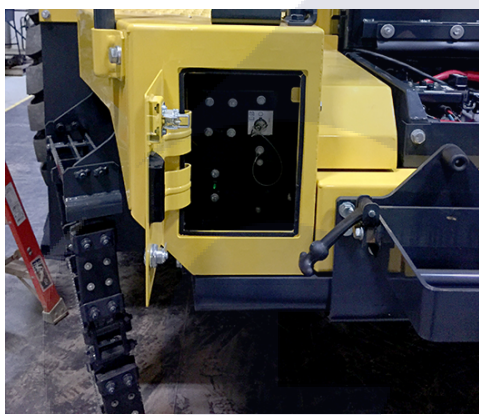

FIG. 147
- Turn on the battery disconnect to the machine to restore power (FIG. 147).